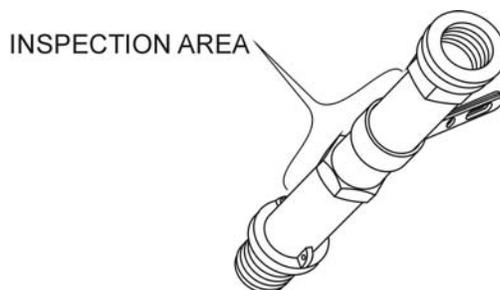
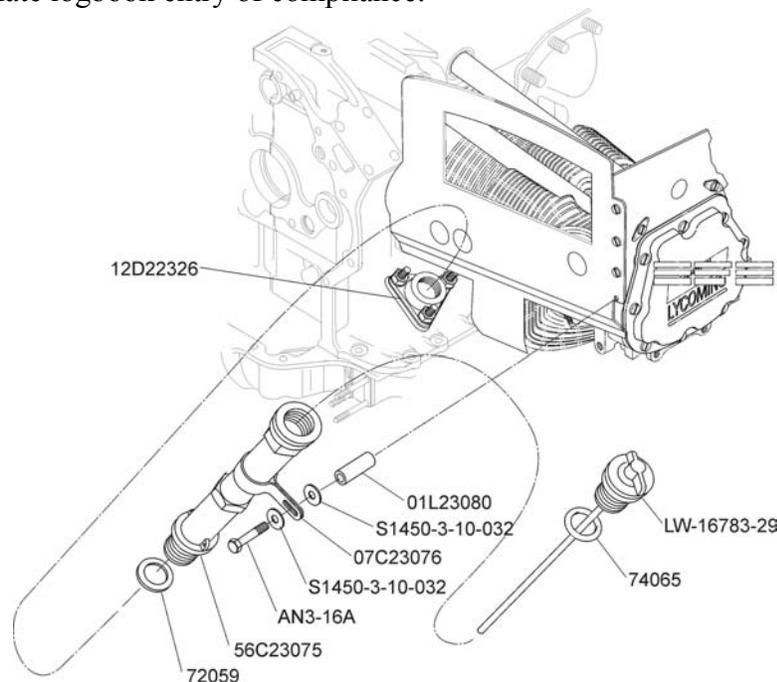

Figure 1
Figure 2
1. If Kit P/N 05K23081 has been installed (see Figure 2) proceed to Part II. If Kit P/N 05K23081 has not been installed, inspect tube (see Figure 1) for signs of gaps, cracks, leaks or damage. If damaged, replace before further flight.
Refer to Figure 2.
7. Install clamp P/N 07C23076 as shown in Figure 2. Using the bolt, 2 washers, and spacer as shown in Figure 2, and taking care that the tube is not preloaded, attach the clamp to the engine baffle. Torque the bolt to 49 in.-lbs.